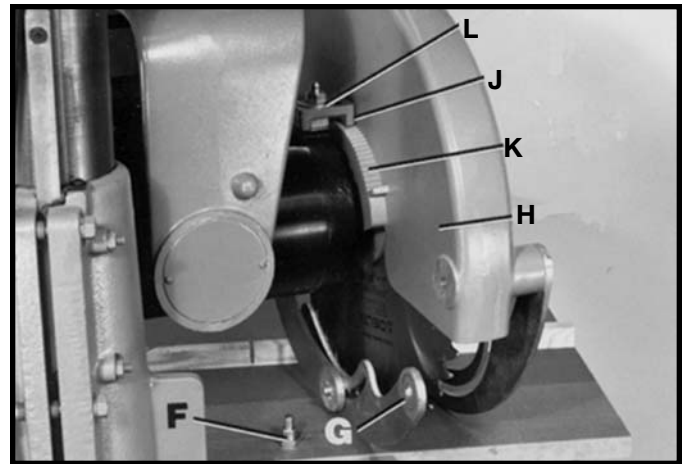
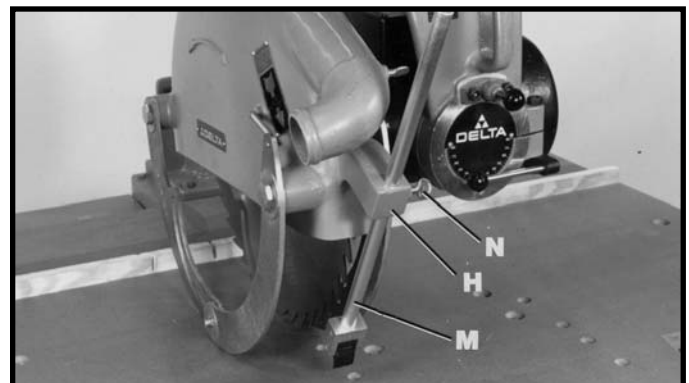

Fig. 25
Fig. 27
4. Remove screw (F) Fig. 25, that attaches inside leaf guard (G) to rear of blade guard (H).
5. Assemble blade guard (H) Fig. 25, to motor housing, as shown. Position bracket (J) over motor housing and blade guard flange (K) and loosely fasten 1/2-13 hex nut (L) with wrench supplied.
7. Assemble anti-kickback rod (M) Fig 27, to blade guard (H), as shown, and fasten in place with thumb screw (N). **NOTE:** It will be necessary to tilt the blade guard (H) to the rear in order to assemble anti-kickback rod (M). Tighten nut (L) Fig. 25.